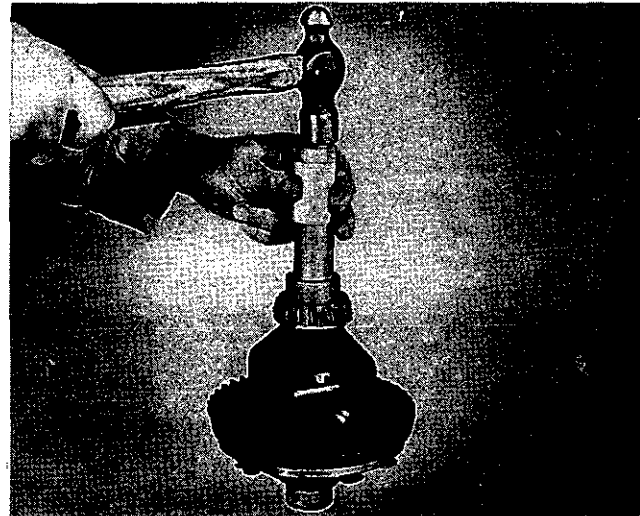

Fig. 17. Fitting Differential Bearing Inner Cone with Sleeved Tool—Tool No. M.89.
6. The differential assembly bearings are now fitted without, as yet, installing any packing shims. A suitable driver such as that which is shown in Fig. 17 should be used for driving the bearings on to the casing.
20. Having fitted the two packs of shims in their respective positions, the bearing inner cones are driven on to the casing with a suitable sleeve tool as shown in Fig. 17 and the outer rings applied.